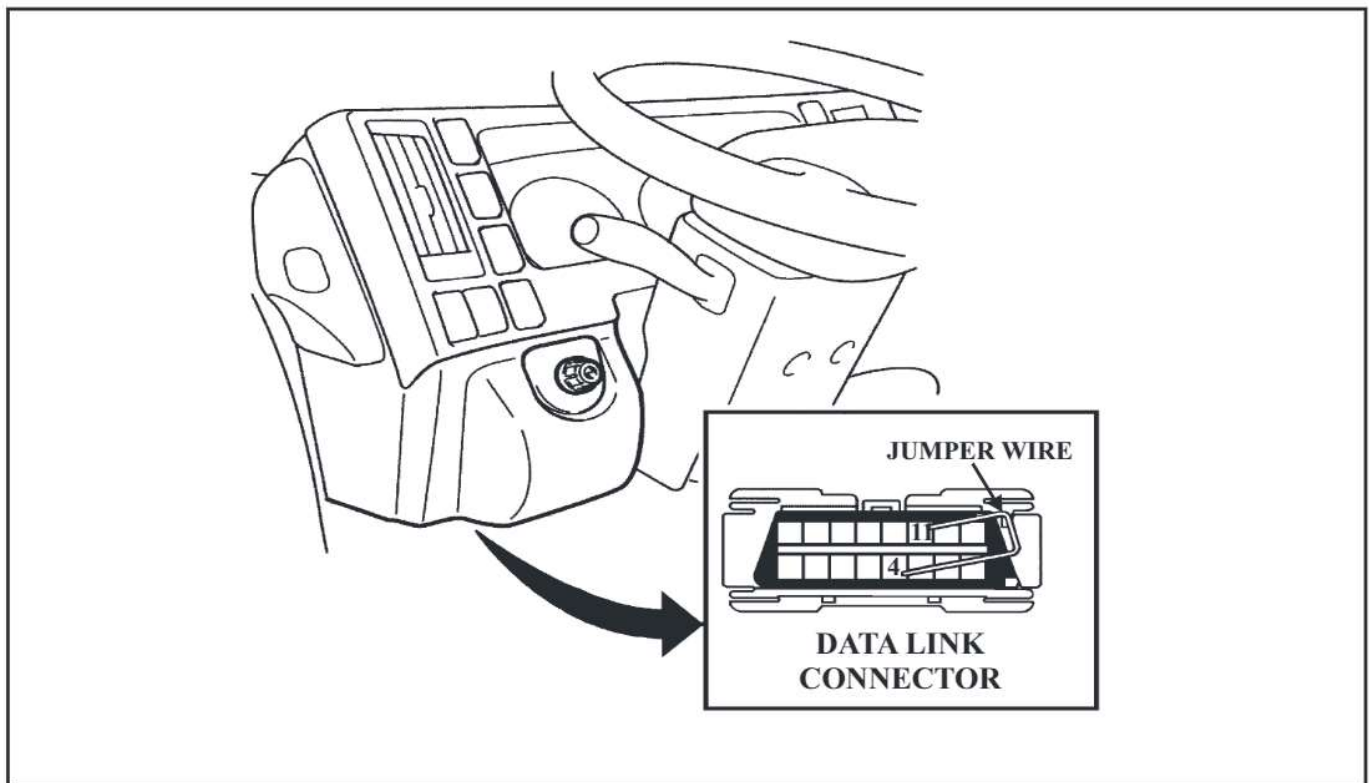
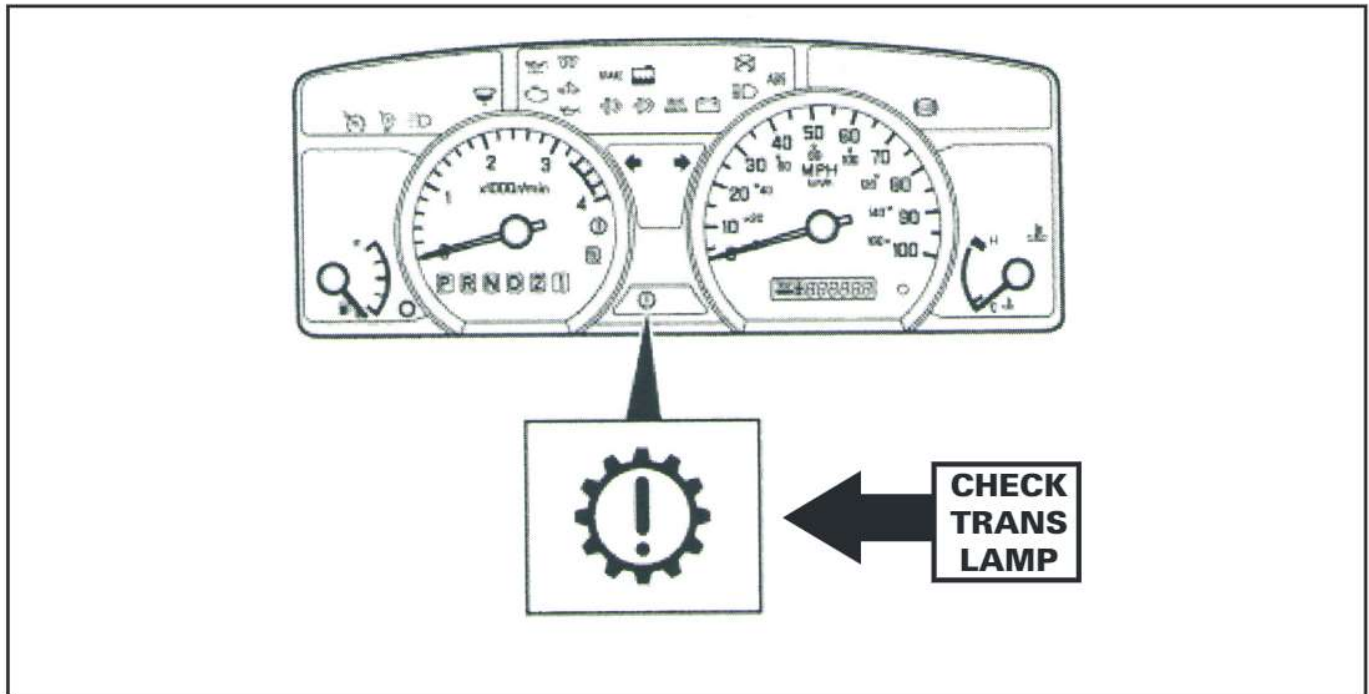
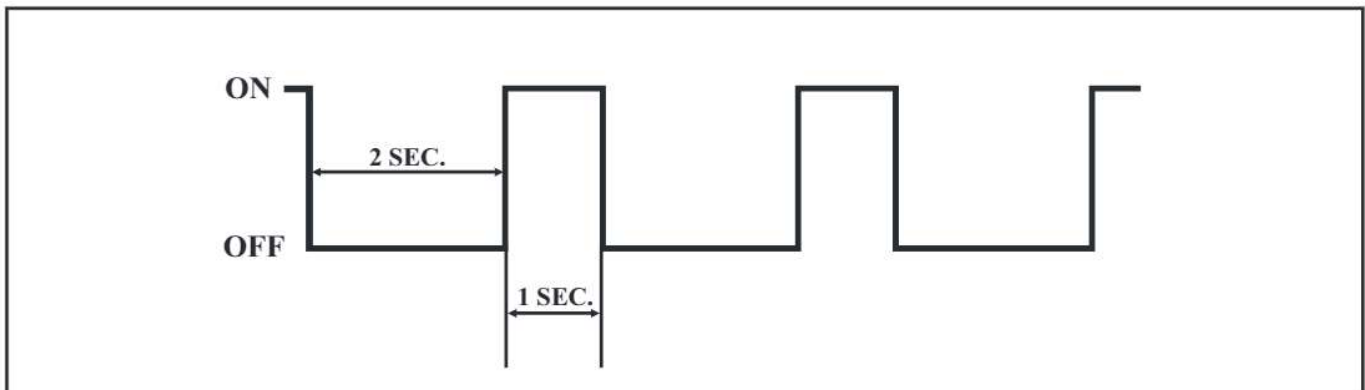

Figure 30
Figure 31
Figure 37
Locate the OBD-II diagnostic connector as shown in Figure 30. **Jump terminals 4 and 11** also seen in Figure 30 and read the code pattern using the “Check Trans” lamp on the instrument cluster as seen in Figure 31. The “Check Trans” Lamp will display a DTC 3 times. If more than one code is present, the codes will output in numerical order with each code being repeated 3 times. The display will continue as long as the Data Link Connector is jumped.
2. Connect a jumper wire between Data Link Connector (DLC) terminal 4 and 11 as previously shown in Figure 30. This will activate the TCM diagnostic switch and cause the "Check Trans" Lamp to flash in the pattern indicated in Figure 37.